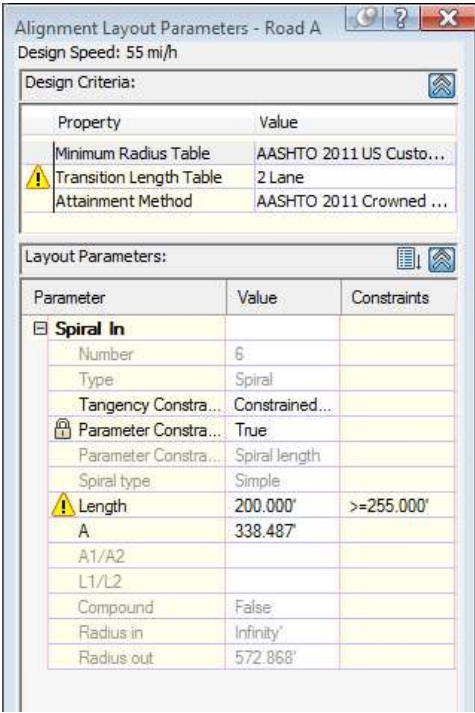

Figure 5-70 Partial view of the *Alignment Layout Parameters - Road A* dialog box
2. Invoke the **Pick Sub-entity** tool from the toolbar and select the green line curve between circles E and F containing the warning sign; the **Alignment Layout Parameters - Road A** dialog box is populated with different spiral parameters, as shown in Figure 5-70.